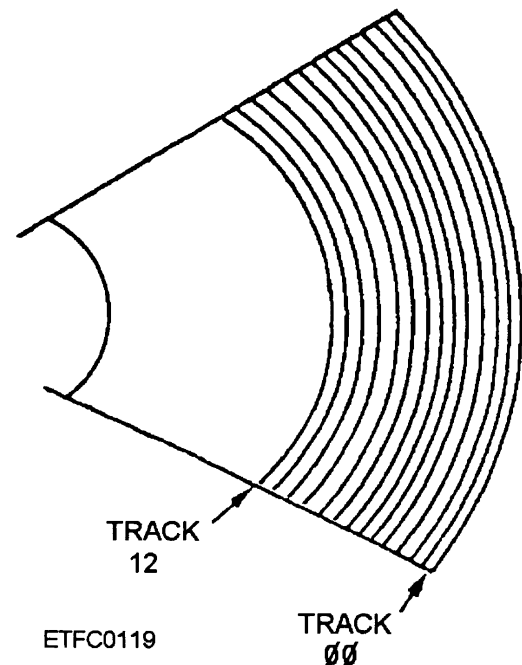

Figure 10-2.—Tracks on a segment of a magnetic disk.
**Tracks** —Concentric rings, called tracks, are written on the disk during the formatting process. Floppy disks have 40 or 80 tracks per side. Fixed disks and disk packs can have from 300 to over 1,000 tracks per side. Figure 10-2 shows an example of how tracks are written on a disk surface. Each track is assigned a number. The outermost track on a disk is assigned number 00. The innermost track is assigned the highest consecutive number.